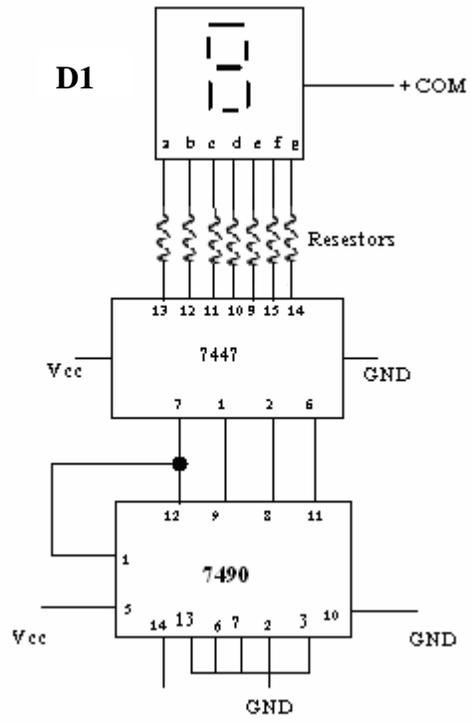

Figure.10: One decade counter
1. Connect the circuit shown in Figure.10